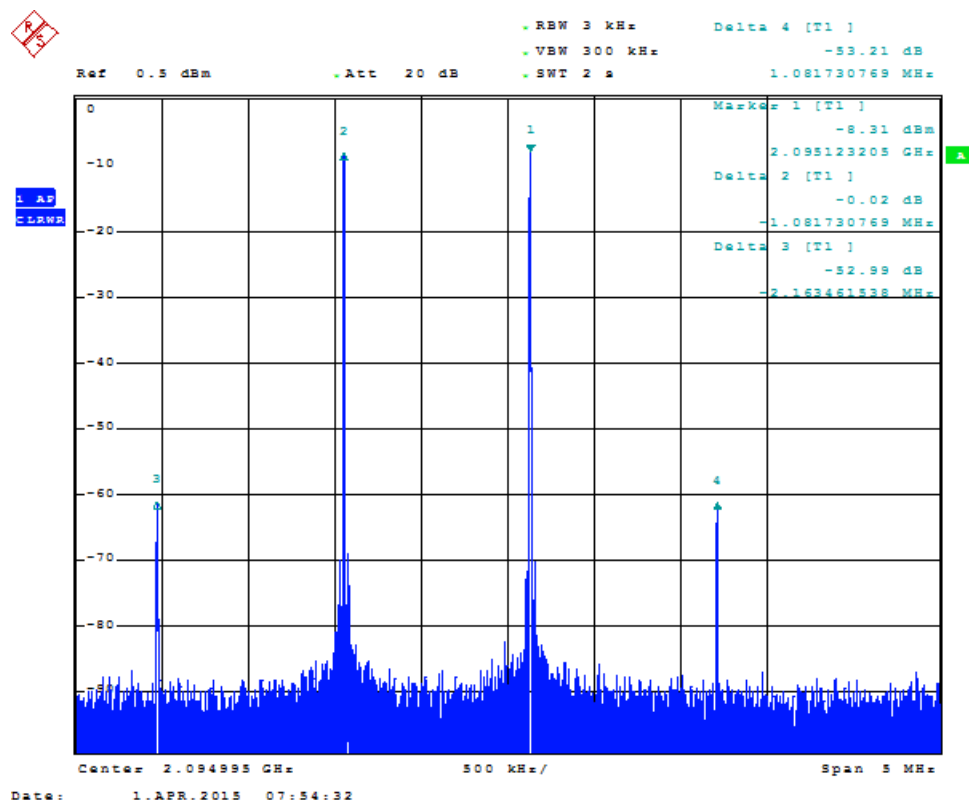

Figure 8. Two-Tone IMD Performance: LO = 2.1 GHz, DAC Rate = 65 MSPS, IF = 4.5 MHz and 5.5 MHz
- Monitor the output signal at the RF output connector. If the LO input frequency is set to 2.1 GHz and the digital inputs are configured to be tones at 4.5 MHz and 5.5 MHz, the RF output looks like two tones placed at 2004.5 MHz and 2005.5 MHz as seen in Figure 8.
Figure 8 shows the typical two-tone performance of the AFE7070 EVM from the preceding setup.